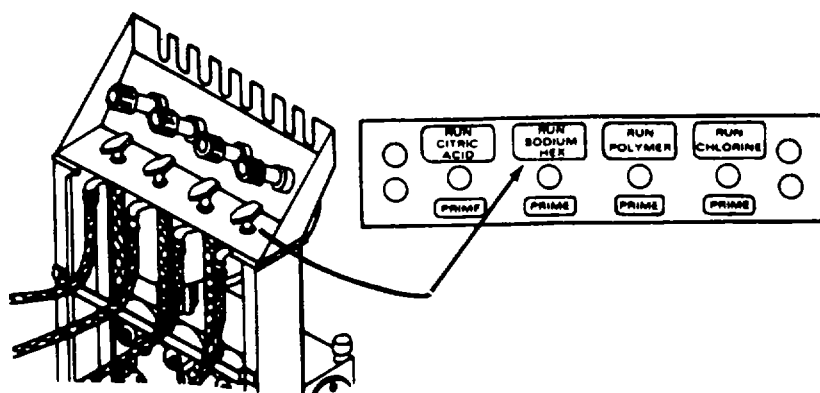

Figure 2-66. Nameplates
q. Set SODIUM HEX valve to RUN position (fig. 2-66).
w. Set CHLORINE valve to RUN position (fig. 2-66).
(1) Covered?
(2) Full? Up to 3 inches from top?
(3) When brine tank is full, remove the canvas brine hose coming from the ROWPU and allow to drain on the ground.